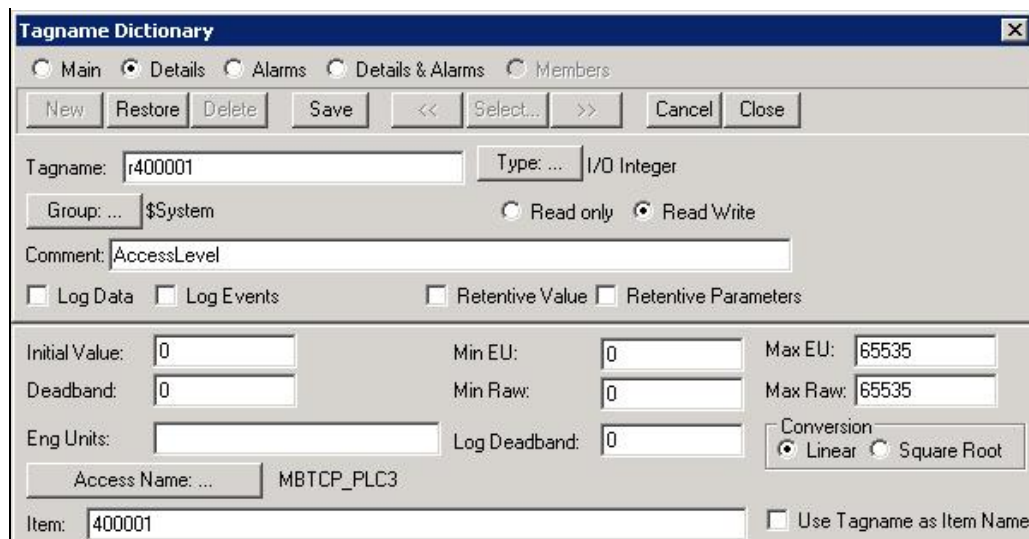

FIGURE 7: TAGNAME DICTIONARY
15. Enter the name of the tag you created (see Figure 7) in the **Expression** box.